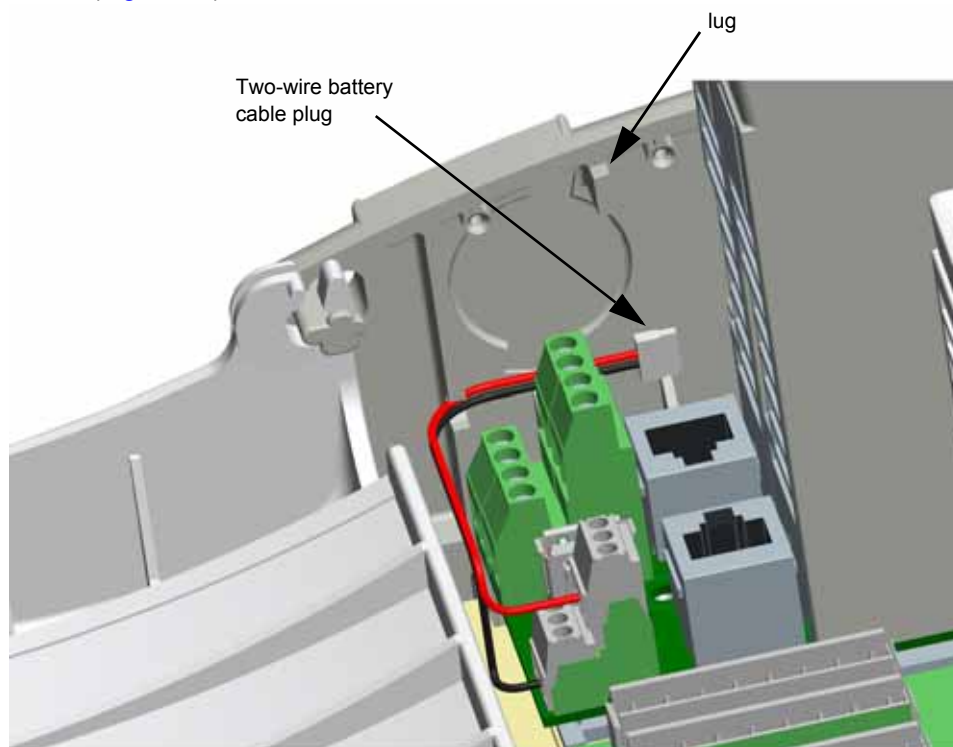

Figure 40: Battery board removed
4. Carefully manoeuvre the battery board out from the plastic side panel. Unplug the two-wire cable from the board end (Figure 40)..